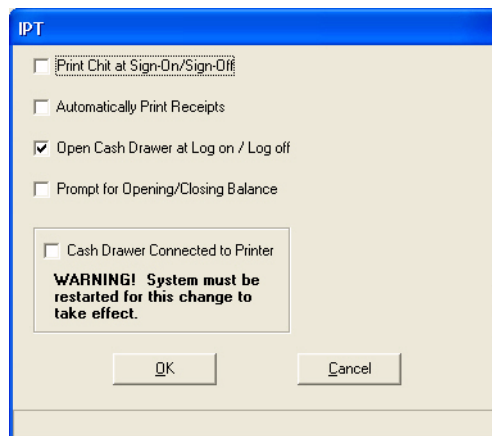

Figure 7-27 IPT 1 Window
1. Access this window by selecting **System > IPT > This** on the IPT you want to program. See Figure 7-27.